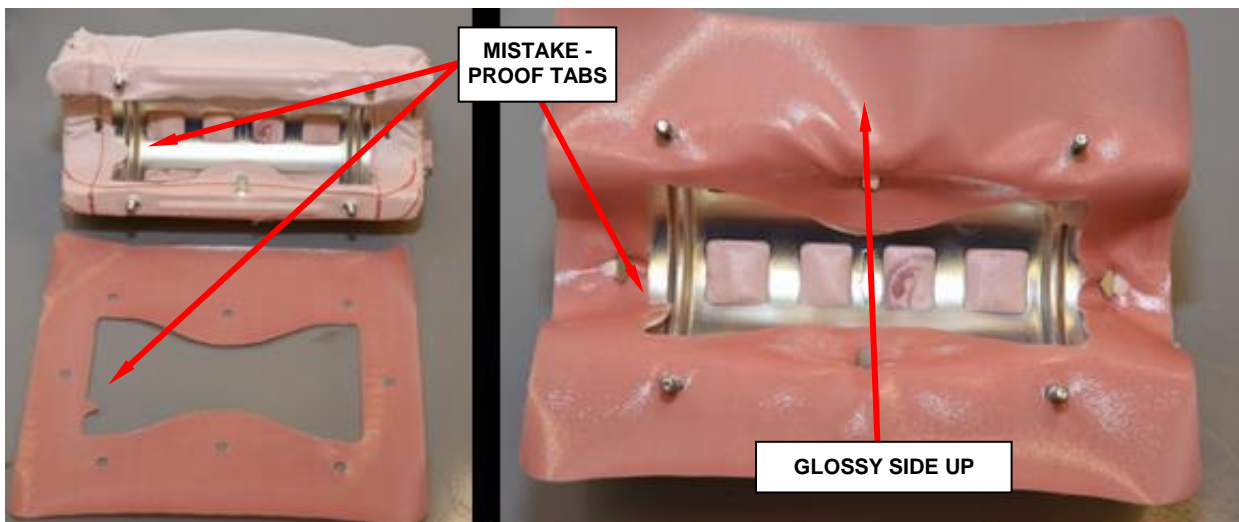

Figure 104 – Fabric Gasket to Cushion
- i. Place the fabric gasket, glossy side up, onto cushion. Mistake-proof tab should be aligned to the tab on the cushion (Figure 104).